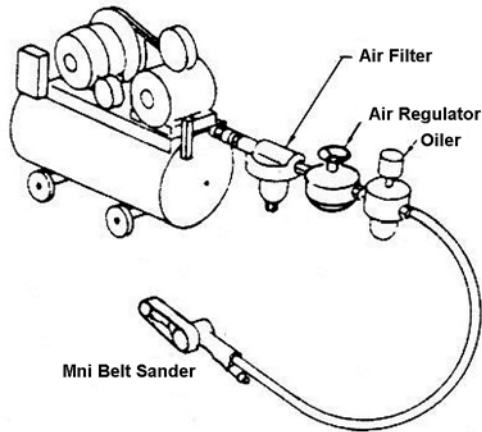

Figure 1
- To avoid moisture damage to the sander, use an inline filter to trap moisture and an inline oiler to keep the sander running at top efficiency. These are placed inline between the compressor and the sander. See Figure 1.